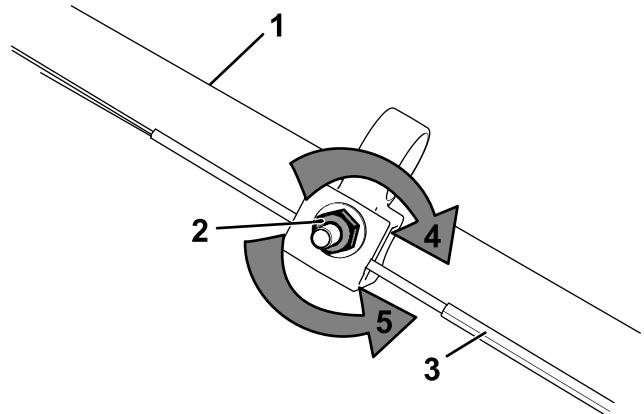

Figure 29
2. Adjust the tension on the cable (Figure 29) by pulling it back or pushing it forward and holding that position.